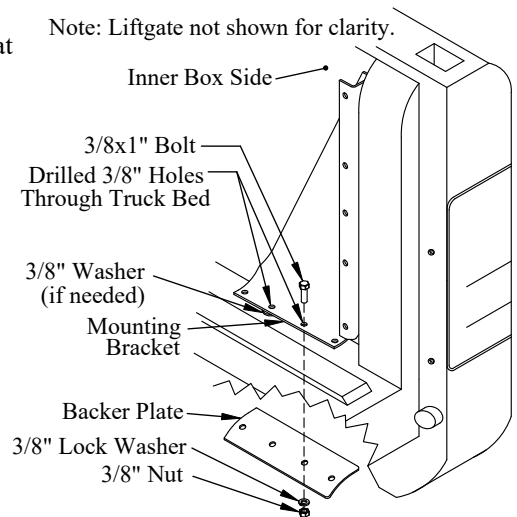

Figure 9: Mounting bracket and backer plate.
Choose two of the four holes provided with no obstructions on the underside (Figure 9).
- (2) 3/8"x1" hex head bolts on the top-side (Figure 9).
- (1) backer plate, (2) lock washers, and (2) hex nuts on the under-side (Figure 9).